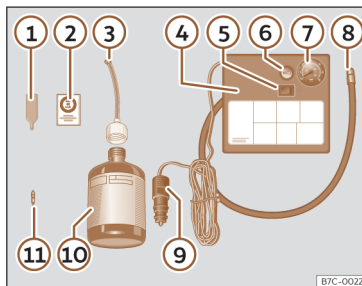

Fig. 240 Standard display: contents of the anti-puncture kit.
The anti-puncture kit is located underneath the floor covering in the luggage compartment. Includes the following components >>> Fig. 240:
- Unscrew the tyre valve cap and insert. Use the device >>> Fig. 240 1 to remove the valve cap. Place it on a clean surface.
- Shake the tyre sealant bottle vigorously >>> **Fig. 240 10**.
- Screw the tyre inflation hose >>> **Fig. 240 3** into the tyre sealant bottle. The bottle's seal will break automatically.
- Remove the filler cap >>> **Fig. 240 3** and screw the open end of the tube into the tyre valve.
- Replace the howitzer with the device >>> **Fig. 240 1** onto the tyre valve.
- Screw the tyre inflation tube of the compressor >>> **Fig. 240 8** on the tyre valve.
- Check that the air evacuation screw is closed >>> **Fig. 240 6**.
- Attach the connector >>> **Fig. 240 9** to the vehicle's 12 volt power outlet >>> page 238.
- Switch on the air compressor with ON/OFF switch >>> **Fig. 240 5**.
- Attach the sticker >>> **Fig. 240 2** to the instrument panel display, within the driver's field of vision.
Screw in the inflator tube >>> **Fig. 240 8** again and check the pressure on the gauge **7**.